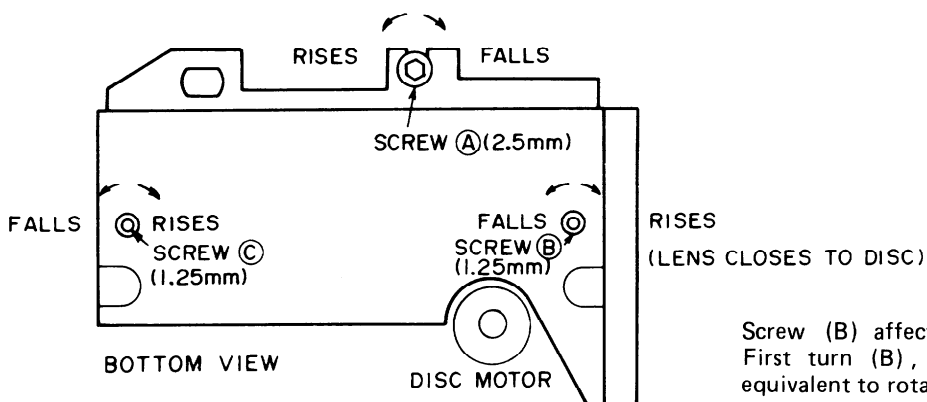

Figure 30
The height and angle adjustments for the pick-up can be made easily during replacement of the pick-up as long as the hex-adjustment screws (A), (B), & (C) are not rotated. (See Figure 30)